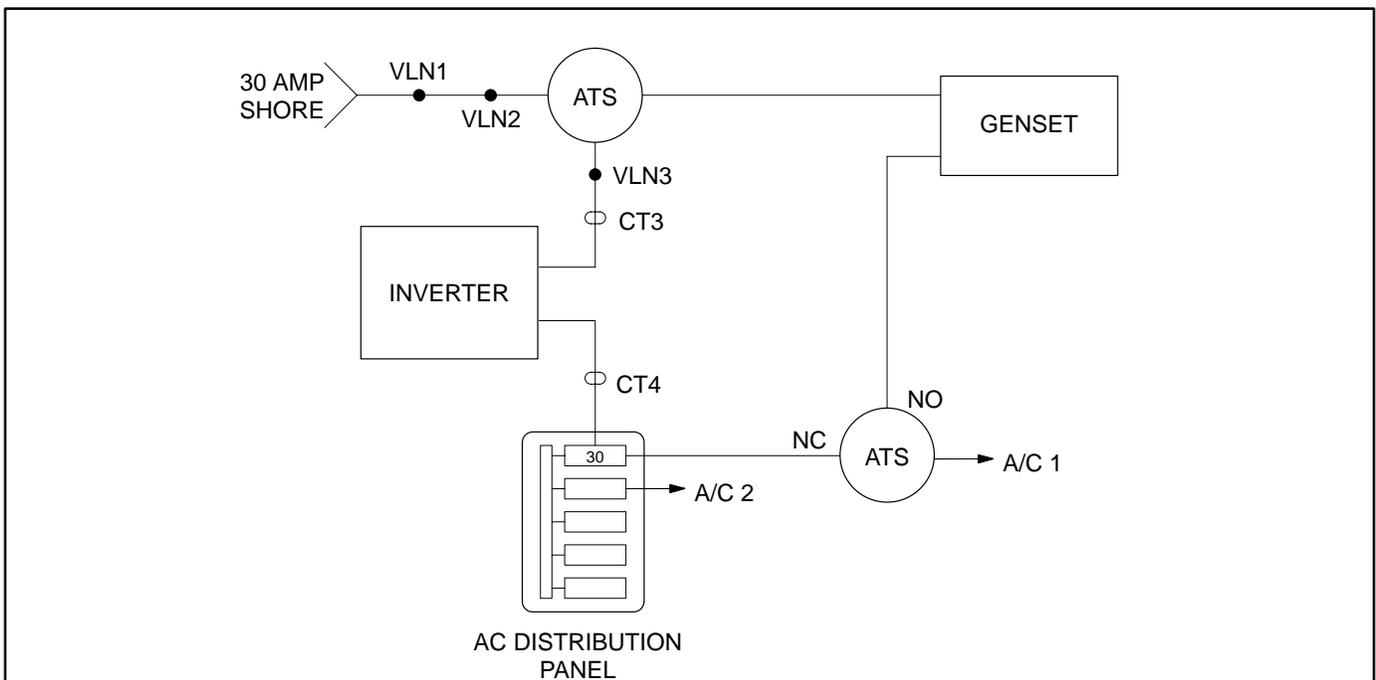

FIGURE 12-6. CONFIGURATION 0
- Configuration 0: Figure 12-6